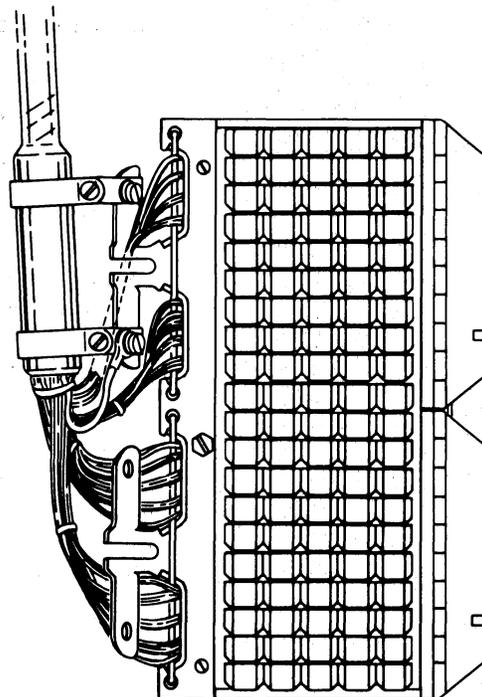

Figure 27. C-377 Connector "Stub Up" Position
- e. Secure cable clamps onto pressure plug with screws and nuts (see figure 27).